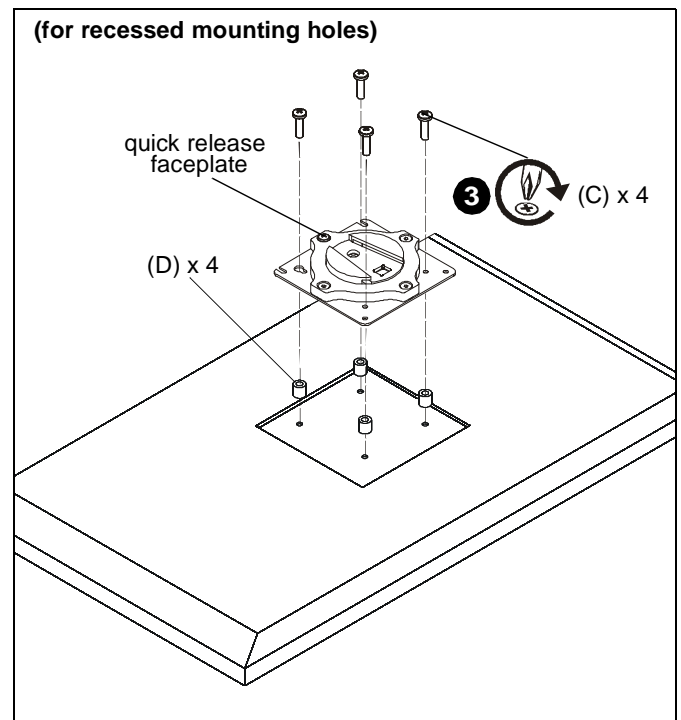

Figure 8
- Place four spacers (F) on top of mounting holes on back of display. (See Figure 8)
- Using Phillips screwdriver, carefully install four M4x25mm screws (E) through corresponding holes on faceplate, spacers (F) and into the mounting holes on the display. (See Figure 8)